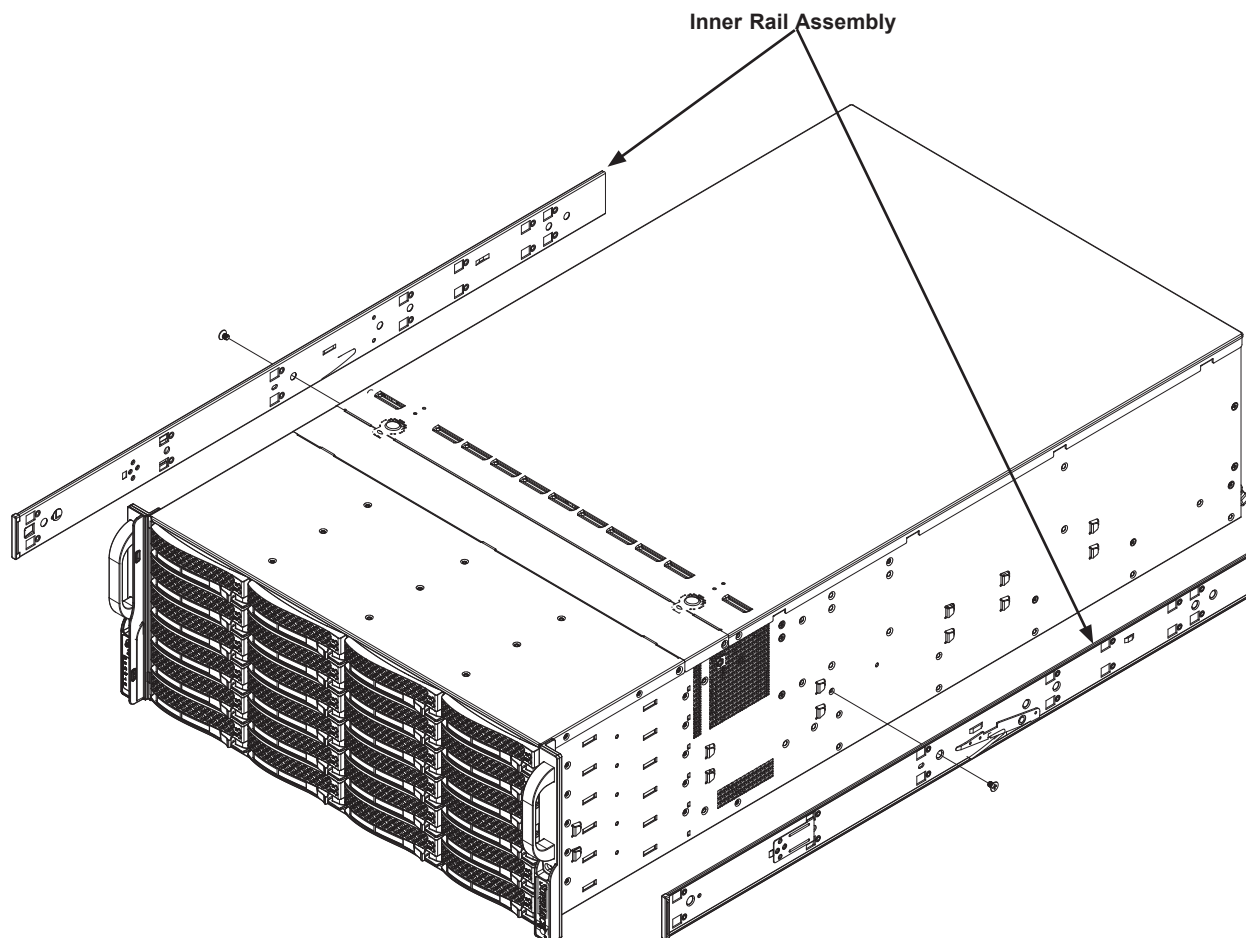

Figure 2-1. Installing the Rack Rails
3. If desired, secure the rail with two flat head M4 x 4mm screws as illustrated in Figure 2-1.